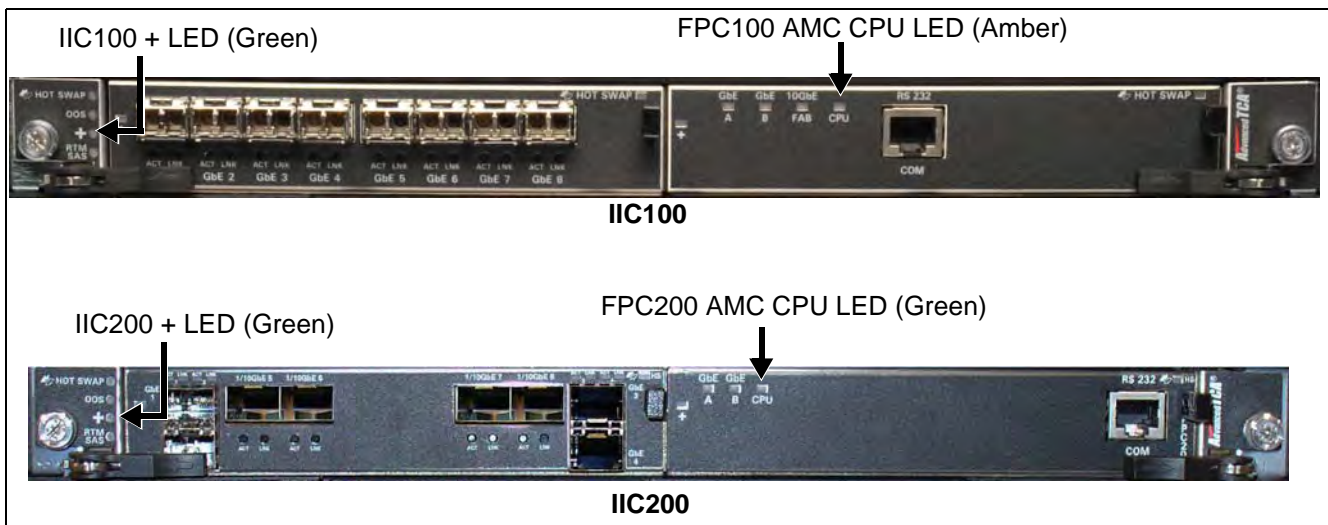

Figure C.32 - G10 IIC100 and IIC200 LED Verification
7. Verify the following LEDs on the front of the IIC (**Figure C.32**):